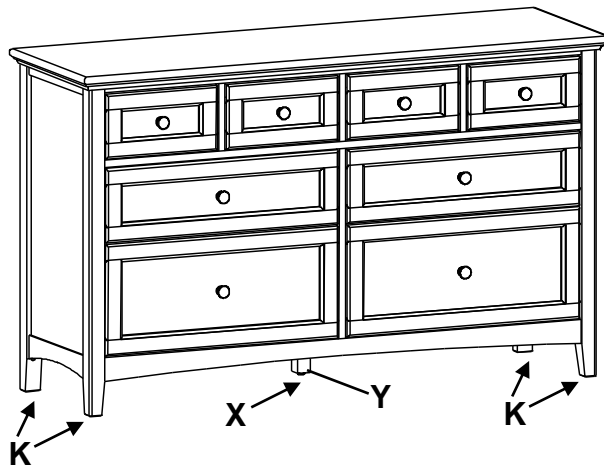

Fig. 2
2. Place the unit at its final destination. Rotate the Small Adjustable Glides (K) found at the corners of the unit and the Adjustable Glide with Hex Nut (X) at the bottom of the Assembled Foot (Y) until the unit is level. See Figure 2.